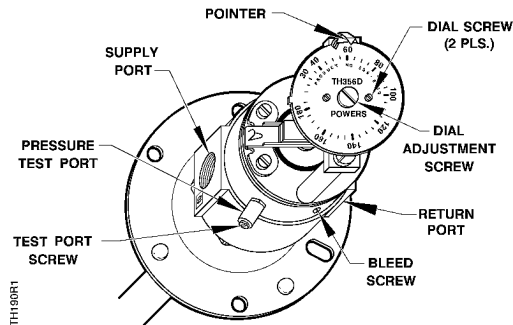

Figure 8. LIMITEM® Cover Removed.
- For duct mounting where access to the coil is limited, see Figure 8. Use flange Number 808-412 and a length of 3/8-inch (9.5 mm) OD hard copper tube to expose the bulb to the air leaving the coil within the duct.
2. With a screwdriver, turn the dial adjustment screw to change to the desired setpoint. See Figure 8.
3. If a permanent return air gauge is not installed, use the pressure test port. See Figure 8 for its location.
1. Loosen the dial screws. See Figure 8.